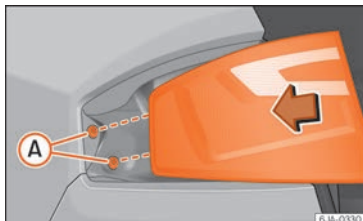

Fig. 102 Fit the tail light unit.
- Press the rear light unit backwards (driving direction) by fitting the fastenings into the rubber mountings » **Fig. 102 A**.